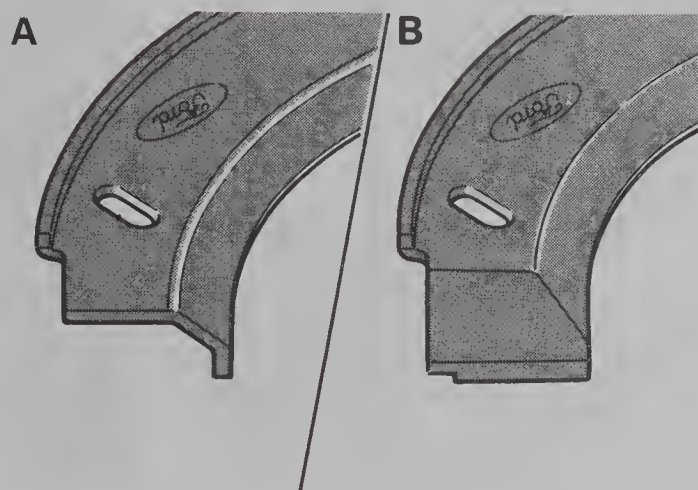
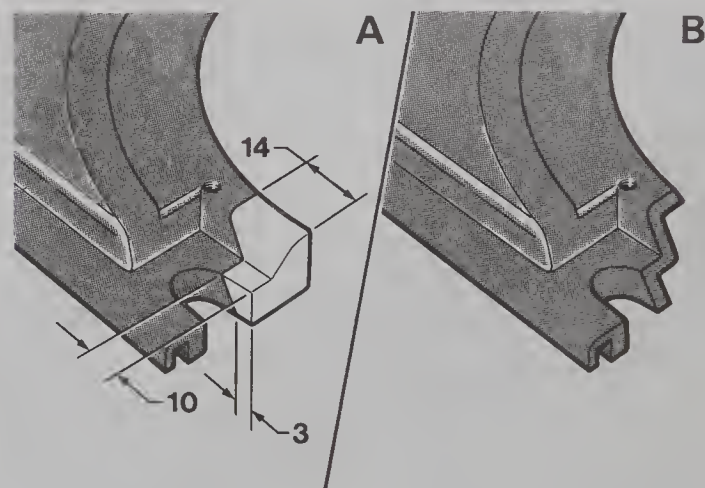

Fig. 8.2 Identifying camshaft drivebelt cover dust shields (Sec 3)
Fig. 8.3 Modifying camshaft drivebelt cover to accept new-type dust shield (Sec 3)
- (g) The dust shield at the bottom of the camshaft drivebelt cover has been modified to improve its dust-excluding properties, so preventing premature wear (and perhaps breakage) of the camshaft drivebelt. Whenever the cover is removed, check the dust shield with reference to Fig. 8.2; if it is of the old type, measure and note the location of the retaining screws inside the slots, remove the shield and use a small saw to cut away the drivebelt cover as shown in Fig. 8.3. Obtain a new-type dust shield and fit it to the cover using the original screws at the points noted before removal.